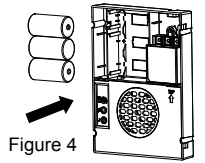

Figure 4
- Insert the C cell batteries in the order shown in Figure 4. The Chime will play all of the tunes that are available when it is first powered up.